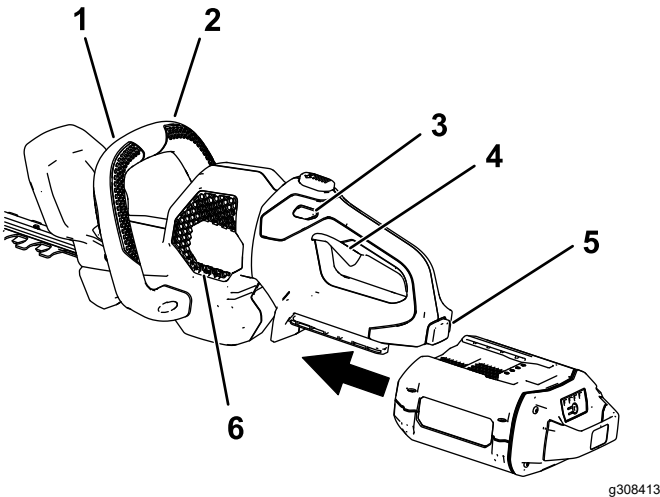

Figure 5
3. Align the cavity of the battery pack with the tongue in the handle housing, grasp the handle, and push the battery pack into the handle until the latch locks into place (Figure 5).
4. Place 1 hand on the trigger handle. Place the other hand on the auxiliary handle (Figure 5).
5. Press the lock switch and then squeeze the trigger switch while engaging the auxiliary-handle switch to turn on the hedge trimmer (Figure 5).
The trimmer stays on as long as the auxiliary-handle switch is engaged and the trigger is squeezed. You may release the lock switch once the hedge trimmer is running (Figure 5).
To shut off the hedge trimmer, release the trigger, auxiliary-handle switch, or both (Figure 5). Allow at least 5 seconds for the cutting blade to stop moving.